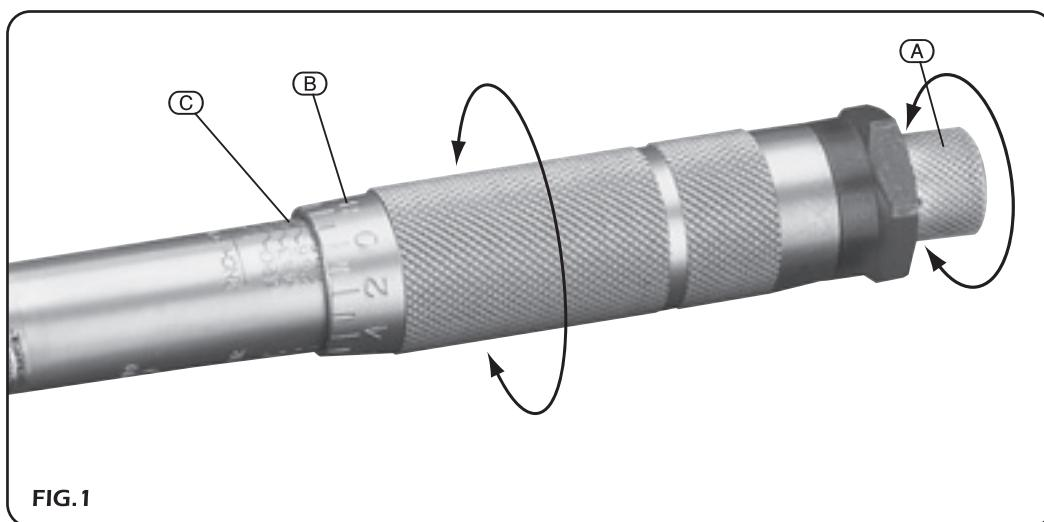

FIG.1
1. Unlock handle (Fig.1) (Page 4).
4. Lock handle (Fig.1) (Page 4).
1. Unlock handle. (Fig.1) (Page 4).
4. Lock handle. (Fig.1) (Page 4).